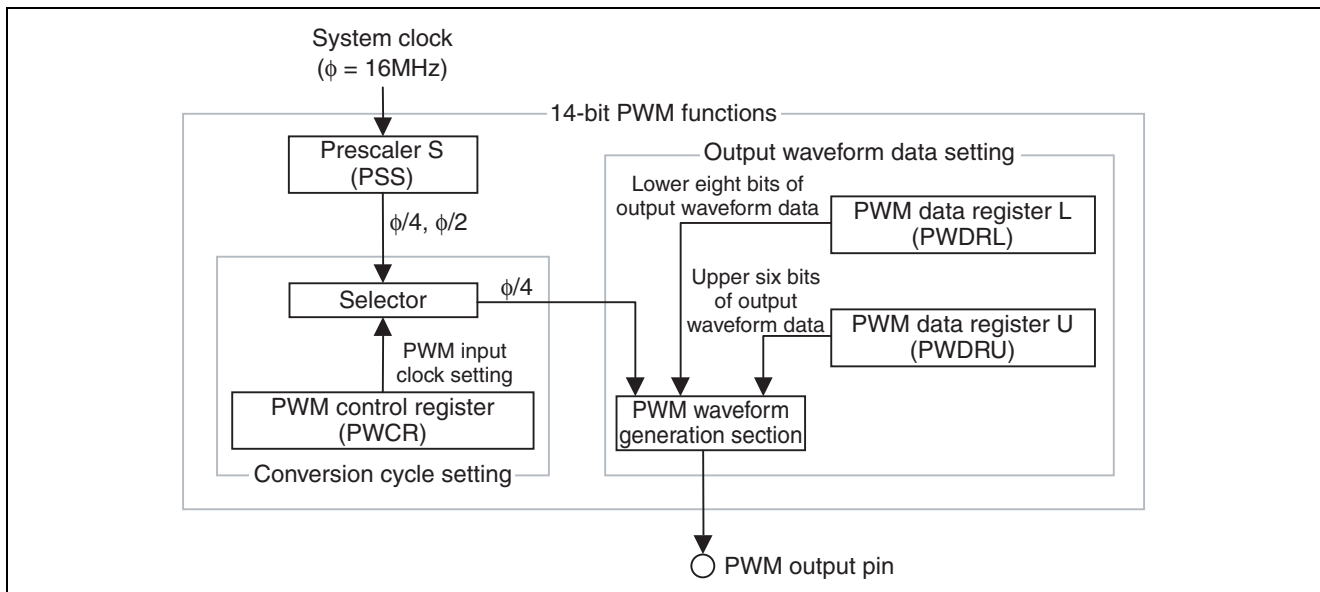

Figure 3 Block Diagram of PWM
2. The H8/3687 functions used for brush-type DC motor control are explained below. Figure 3 is a block diagram of the functions used in this sample task.
3. Each 14-bit PWM function is explained below. Figure 3 is a block diagram of the 14-bit PWM function. Each item in the block diagram is explained below: